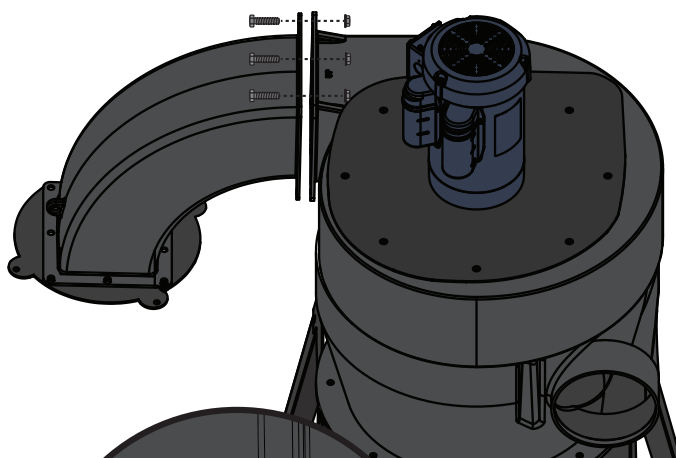

FIG. 9a
Secure the Filter Plenum Elbow (I1) to the outlet on the Fan Housing (B) using six Flange Bolts (G4D) and six Whiz-Lock Nuts (G4E) [FIG. 9a]. Leave lower outer corner empty for Step 10 [FIG. 9b].